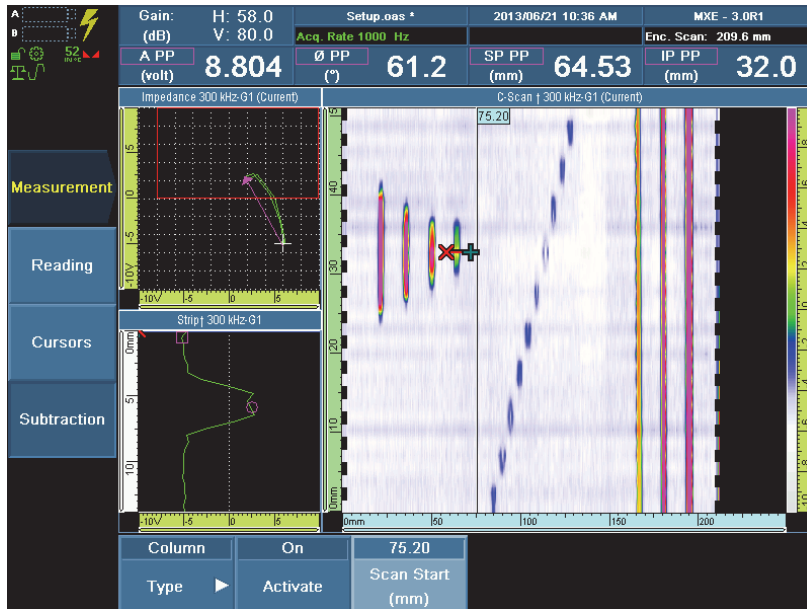

Figure 12-1 Vertical subtraction cursor
3. Select **Measurement > Subtraction > Activate = On**, and then press the Accept key enable the cursor. Selecting **Activate = Off** will disable the cursor (see Figure 12-1 on page 216).
In continuous scan mode (**Scan > Inspection > Continuous = On**, see section 15.6.1 on page 326), the acquisition signal in the C-scan views can be displayed with a 1:1 ratio along the scan and index axes (see Figure 12-1 on page 216 and Figure 12-5 on page 222).